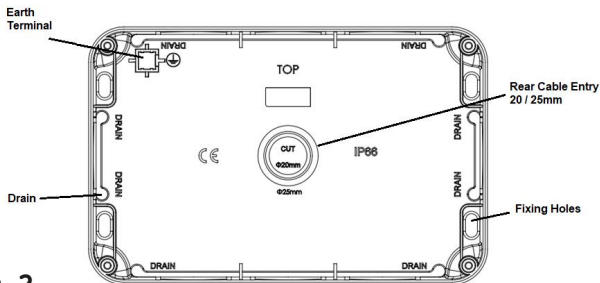

Fig. 2
- The backbox has drain hole drilling guides marked (see Fig. 2). Drilling a drain hole is advised if the unit is installed in a location subject to temperature fluctuations where build-up of condensation may occur. It is not advised if the unit will be subject to high pressure jets, as drilling a drain hole will reduce the IP rating. A 3-5mm hole should be drilled at the bottom back edge of the enclosure where marked. If wiring in conduit to the bottom entry, then the drain hole should be drilled at the lowest point of the conduit run not in the backbox